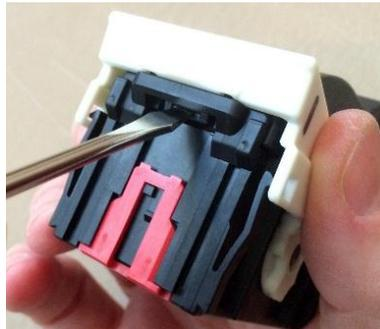

Figure 6
2. Using a jeweler's screwdriver, carefully depress the locking beam of the wire dress cover, and pull the wire dress cover from the plug housing. See Figure 6.